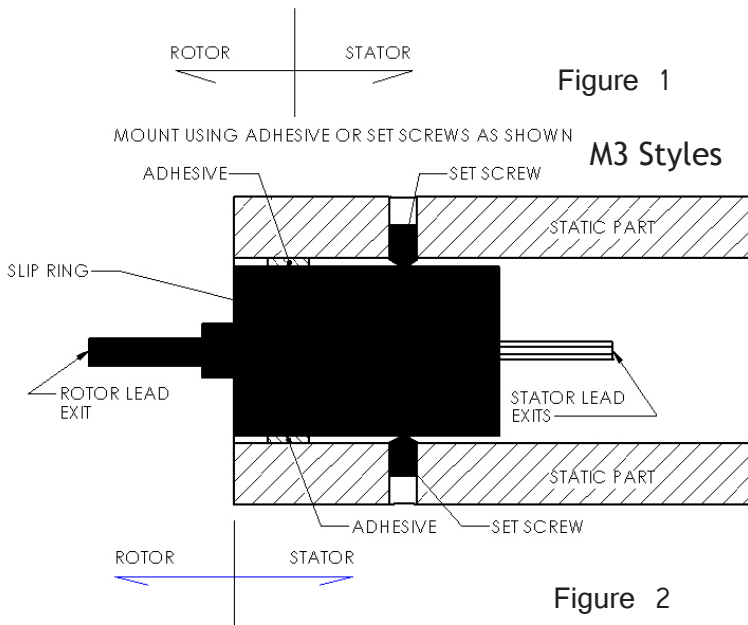

Figure 2
2. Slip rings without flanges (M3 style) should also be mounted by securing the stator. This is most commonly done by inserting the body of the slip ring into a hole that is slightly larger than the OD and then securing it as shown in Figure 2. The most common methods include set screws, adhesives, or O-rings.
3. The rotor should be driven with a flexible drive coupling to accommodate any differences in the assembly and slip ring's axis of rotation. Rubber tubing, heat shrink tubing, or a flexible coupling can be used. For applications that run at 5 rpm or less, the rotor leads can be used as the flexible coupling. See Figure 2.